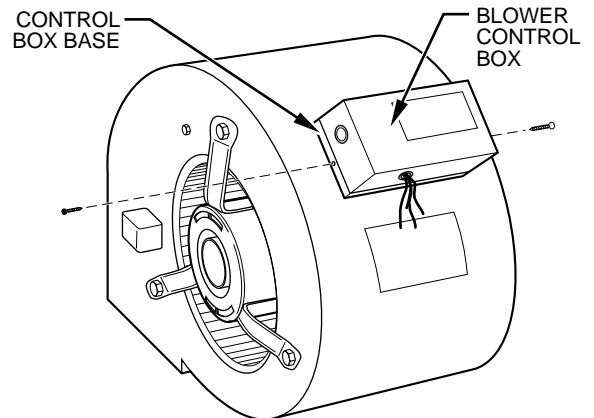

Fig. 5—Attaching Control Box to Control Box Base
2. Insert control box onto control box base aligning 2 holes in sides of control box and base. (See Fig. 5.)
3. Secure control box to base with 2 screws provided in loose parts bag. (See Fig. 5.)